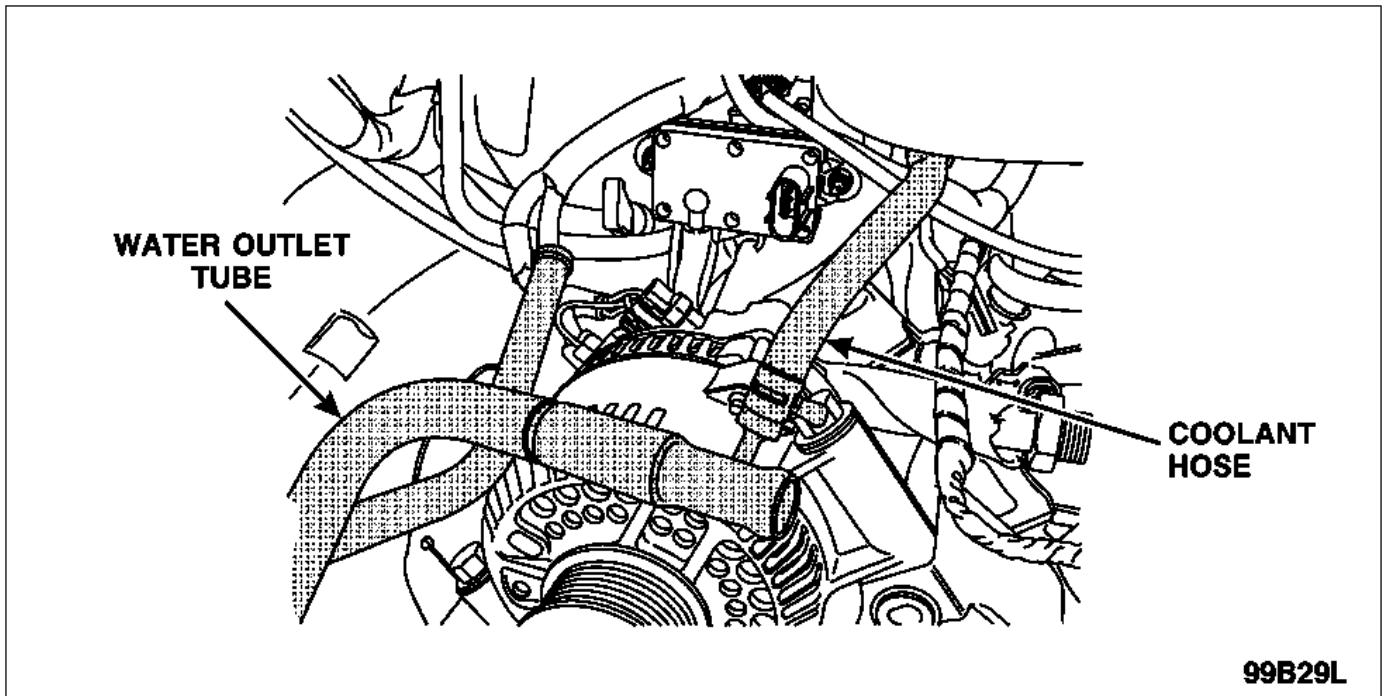

FIGURE 12
34. Connect the coolant hose (shown) to the water outlet tube. See Figure 12.